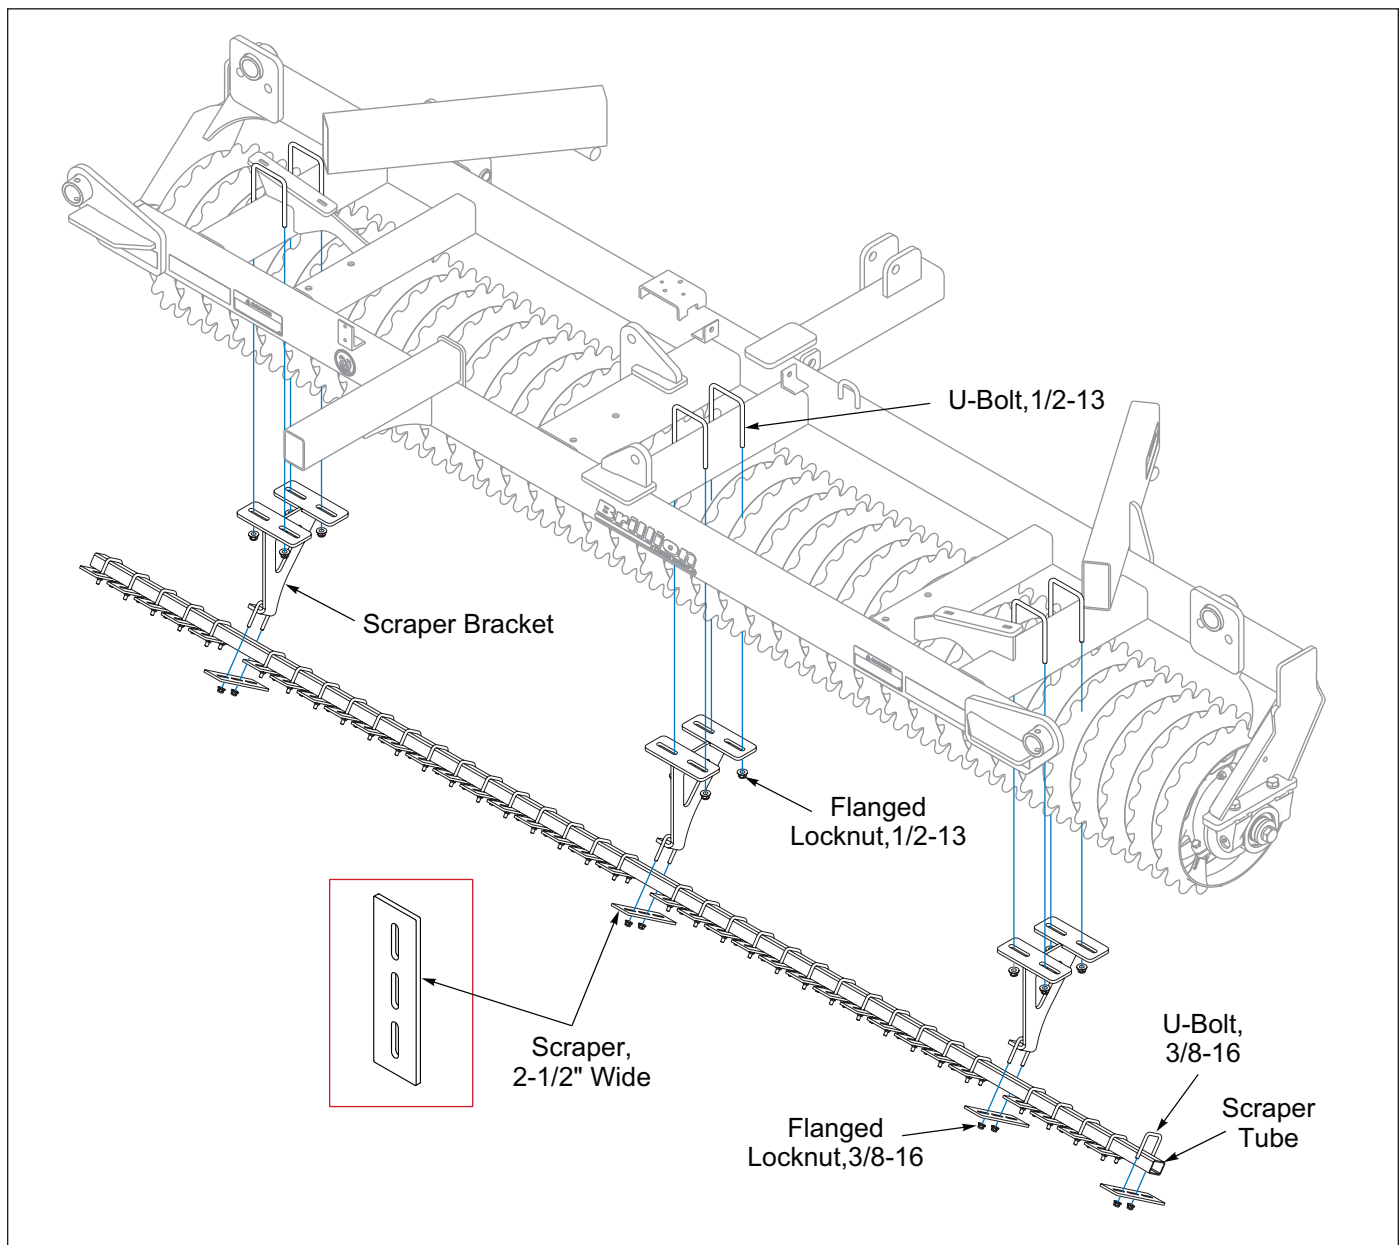

Figure 2-20: Center Scraper Installation
1. Place Center Roller on level ground. Assemble the 1/2-13 U-Bolts over the frame center and outer cross tubes and through the Scraper Brackets with Flanged Locknuts. **See Figure 2-20.** Do not tighten.